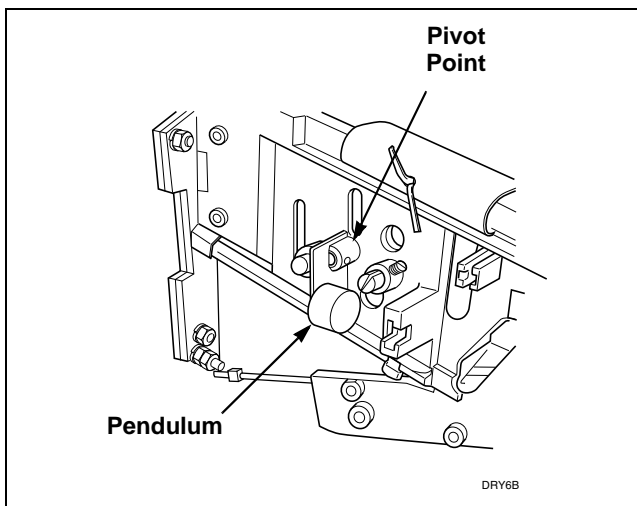

Figure 60
- i. Check coin return pendulum to verify it swings freely. If pendulum does not swing freely, spray pendulum pivot point with Teflon based lubricant and move pendulum back and forth two to three times. An additional application of Teflon based lubricant may be necessary to ensure that pendulum swings freely. Refer to *Figure 60*.